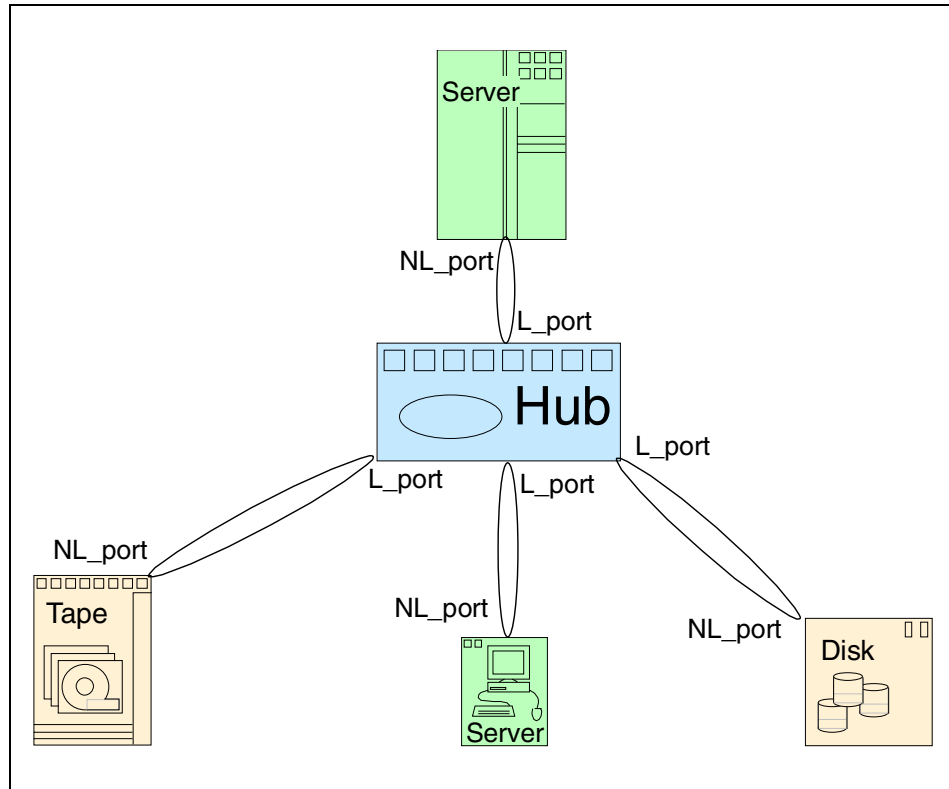

Figure 2-12 Private loop implementation
- ▶ **Private loop:** The private loop does not connect with a fabric, only to other private nodes using attachment points called NL\_Ports. A private loop is enclosed and known only to itself. In Figure 2-12 we show a private loop.